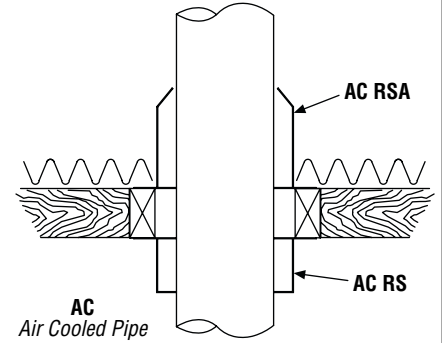

Figure 20B
5. From below, install a radiation shield (see **Figure 20B**).